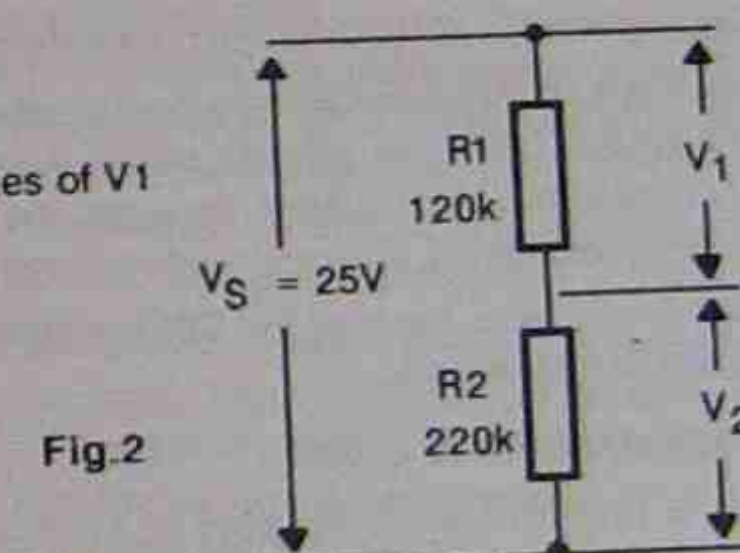

Fig.2
- For the circuit of Fig.2, calculate the values of  $V_1$  and  $V_2$ .
- For the circuit of Fig.2, calculate the reading that will be shown by a voltmeter with a sensitivity of  $10\text{k ohms/volt}$  set to its  $10\text{V}$  scale.